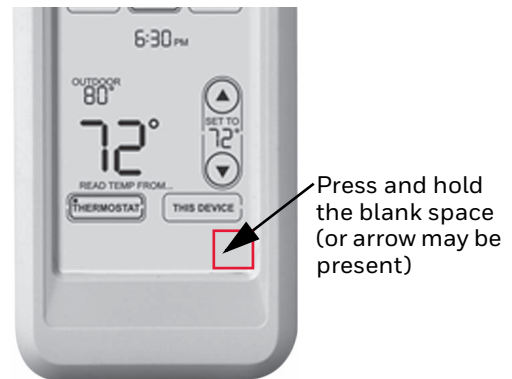

Fig. 321.
1. Press and hold the blank space (or arrow) in the lower right hand corner of the screen until the display changes (hold for about 4 seconds). See Fig. 321.